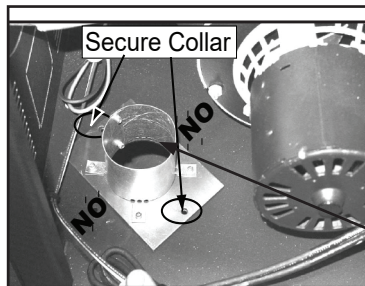

Figure 20.2
- Align and secure collar assembly with 2 of the 4 holes as shown. **Figure 20.2.**